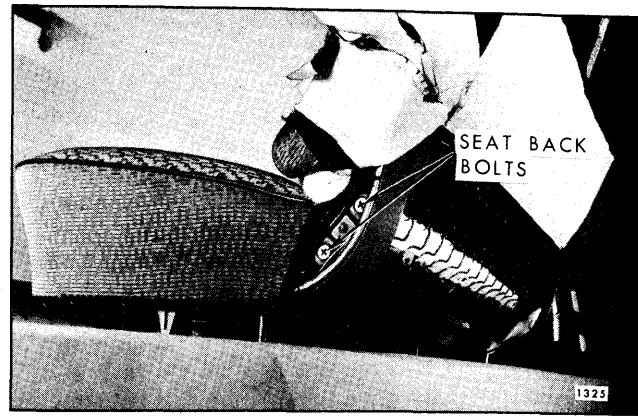

Fig. 10-22—Seat Back Attachment
4. At each end of seat, remove hog rings securing lower edge of seat back trim to seat bottom frame. Raise or turn back seat back trim to expose bolts securing seat back frame to seat cushion frame (Fig. 10-22). Where seat back lighter or courtesy light is present disconnect wire from seat cushion frame.